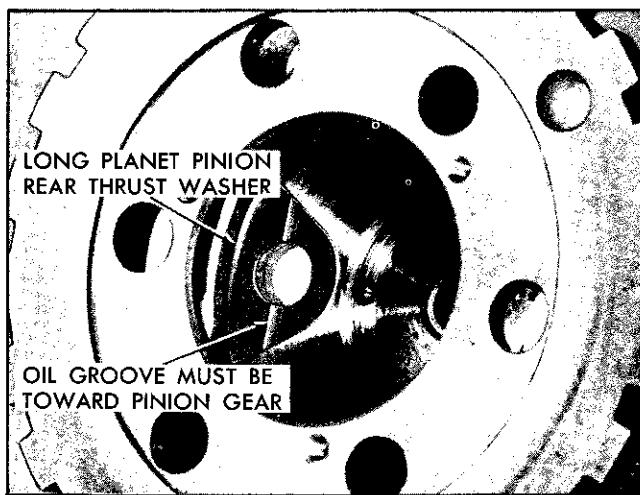

Fig. 7F-65 Long Pinion Rear Thrust Washer
2. Install pinion front thrust washer ("paired" washer), retaining it with petrolatum. Oil grooves must face pinion (Fig. 7F-66).